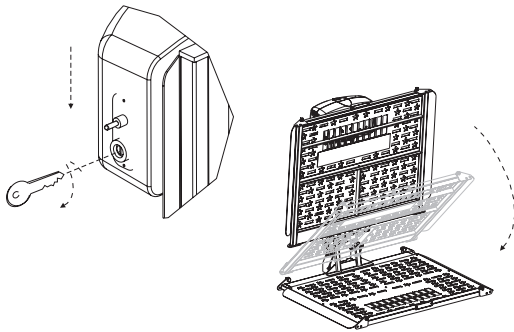

Figure 7-2
3. Continue to lower the platform until it reaches the ground and becomes level. **See Figure 7-2.**